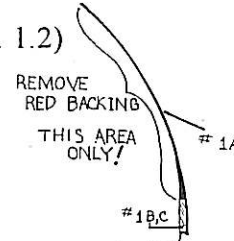
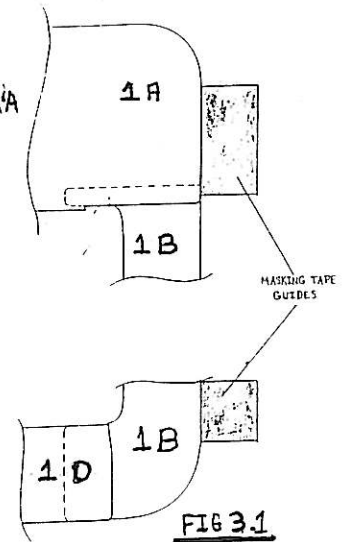

FIG 2.1 - VIEW A/A
FIG 3.1
**STEP 2. TAKE PASSENGER UPRIGHT FRAME POST (#1B) & LINE UP THE OUTSIDE EDGE TO THE OUTSIDE EDGE OF TRUCK'S GRILLE FRAME (TOP TAB MUST BE **BEHIND** (#1A) & SECURE WITH MASKING TAPE .(SEE FIG 2.1). DO SAME FOR DRIVER UPRIGHT FRAME POST(#1C).**
**STEP 3. TAKE LOWER OVERLAY PC(#1D) & CENTER IT USING THE CENTER CUTOUT AS A GUIDE, THEN SECURE w/MASKING TAPE.(SEE FIG.1.2) PRESS EACH END OF (#1D) UNTIL IT IS SEATED PROPERLY AGAINST (#1B & 1C). REPOSITON (#'s 1B & 1C) SO THAT THE BOTTOM & SIDE EDGES ARE FLUSH TO EACH OTHER. DO THE SAME WITH TOP PIECE (#1A) SO THAT THE OUTSIDE EDGES ARE FLUSH.(SEE FIG 3.1)**
**STEP 7. TOP OVERLAY: (#1A).** REMOVE PC WITH MASKING TAPE & REMOVE RED TAPE BACKING, (SEE FIG 2.1). BRING PC UP TO AREA & PUT LEFT EDGE OF PC FLUSH TO OUTSIDE EDGE OF PC (#1B). SLOWLY BRING PC TOWARDS VEHICLE SURFACE, BEING SURE THAT BOTTOM LIP OF PC (W/RED BACKING )IS UP AGAINST BOTTOM OF GRILLE.(FIG 3.1)